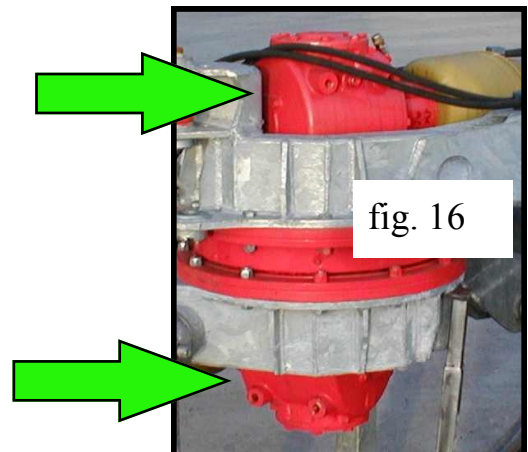

fig. 16
- 6) Change the oil in the two units of the Movred Radiale every 100 hours, using 3 lt of SAE 90 for each see figure 16.